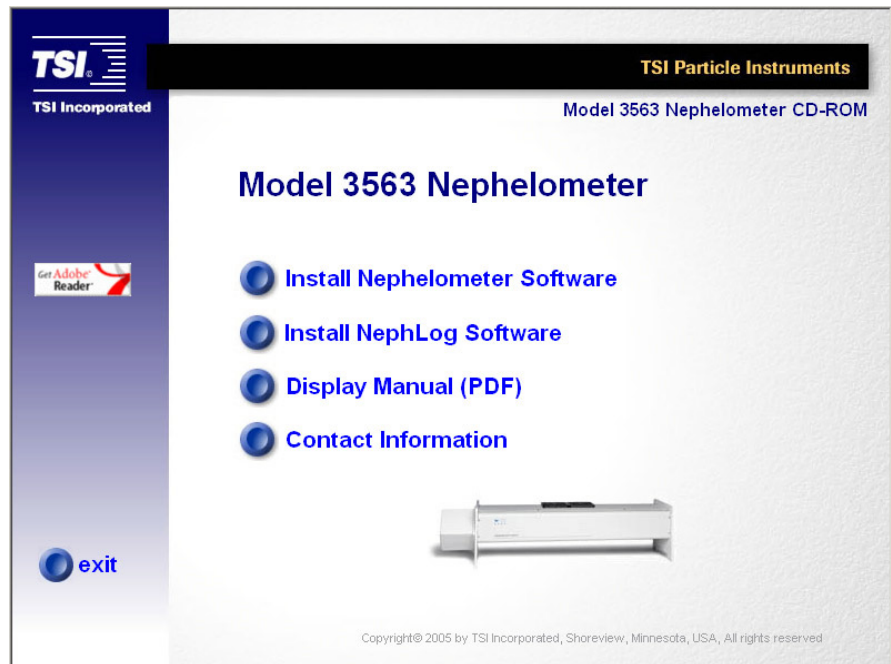

Figure 5-1
- a. If AutoPlay is enabled on your PC, the setup program begins automatically and the introduction screen is displayed on the Windows desktop (see Figure 5-1).